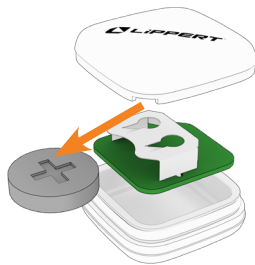

Fig.20
4. Lift out the sensor platform and slide out the old battery (Fig.20).